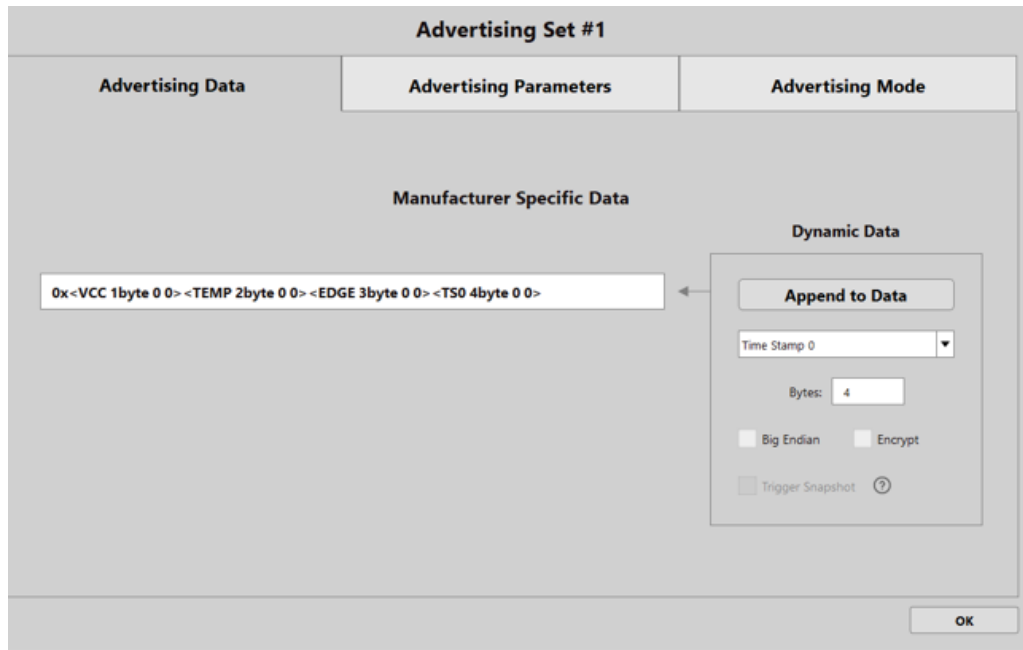

Figure 12 Selecting dynamic data
- If it is extended data, we can select the data from the drop-down list from Dynamic Data box and then press button "Append to Data". The added extended data will be shown in the data entry inside "<>", as shown in Figure 12. For most of the extended data, the user can configure the number of bytes to be advertised. For example, the "Adv Count" (advertising count) internally has 4 bytes. A user can configure the device to advertise only 2 LSB bytes only by changing the number of bytes to 2. Depending on the data source selected, the endianness, encryption option and Trigger Snapshot option can be selected collectively or respectively.